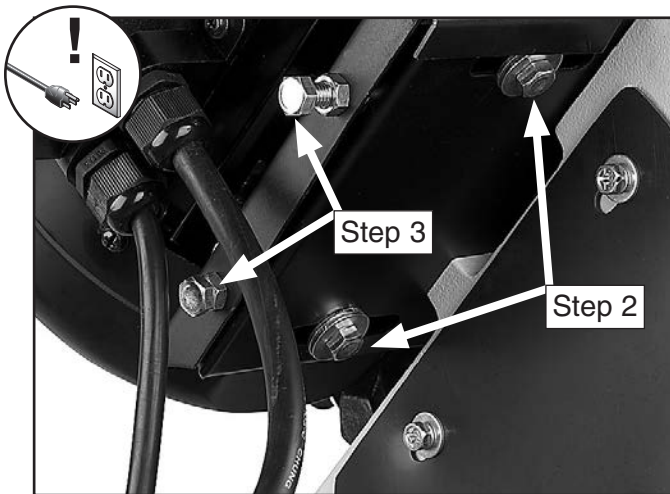

Figure 17. Location of V-belt tension hex bolts.
2. Loosen the two hex bolts on motor mount bracket (see **Figure 17**).
3. Adjust the two hex bolts on motor mount plate to loosen belt (see **Figure 17**).